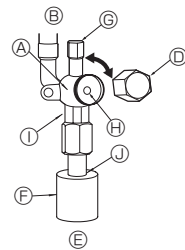

Fig. 4-5
4.5. Stop valve opening method (Fig. 4-5)
- ① Remove the cap and turn the valve rod counterclockwise as far as it will go with the use of a 4 mm, 5/32 inch hexagonal wrench. Stop turning when it hits the stopper. (ø6.35, 1/4 inch: Approximately 4.5 revolutions) (ø9.52, 3/8 inch: Approximately 10 revolutions)
- ② Make sure that the stop valve is open completely, push in the handle and rotate the cap back to its original position.